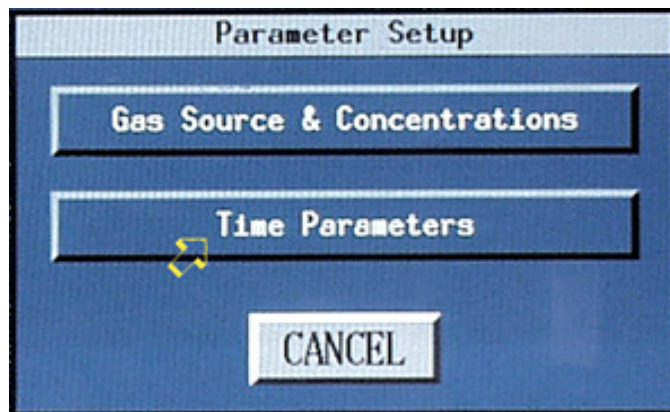

Figure 34
- 141 On the smaller “Parameter Setup” sub-panel, click on “Time Parameters.” See the arrow in Figure 34.